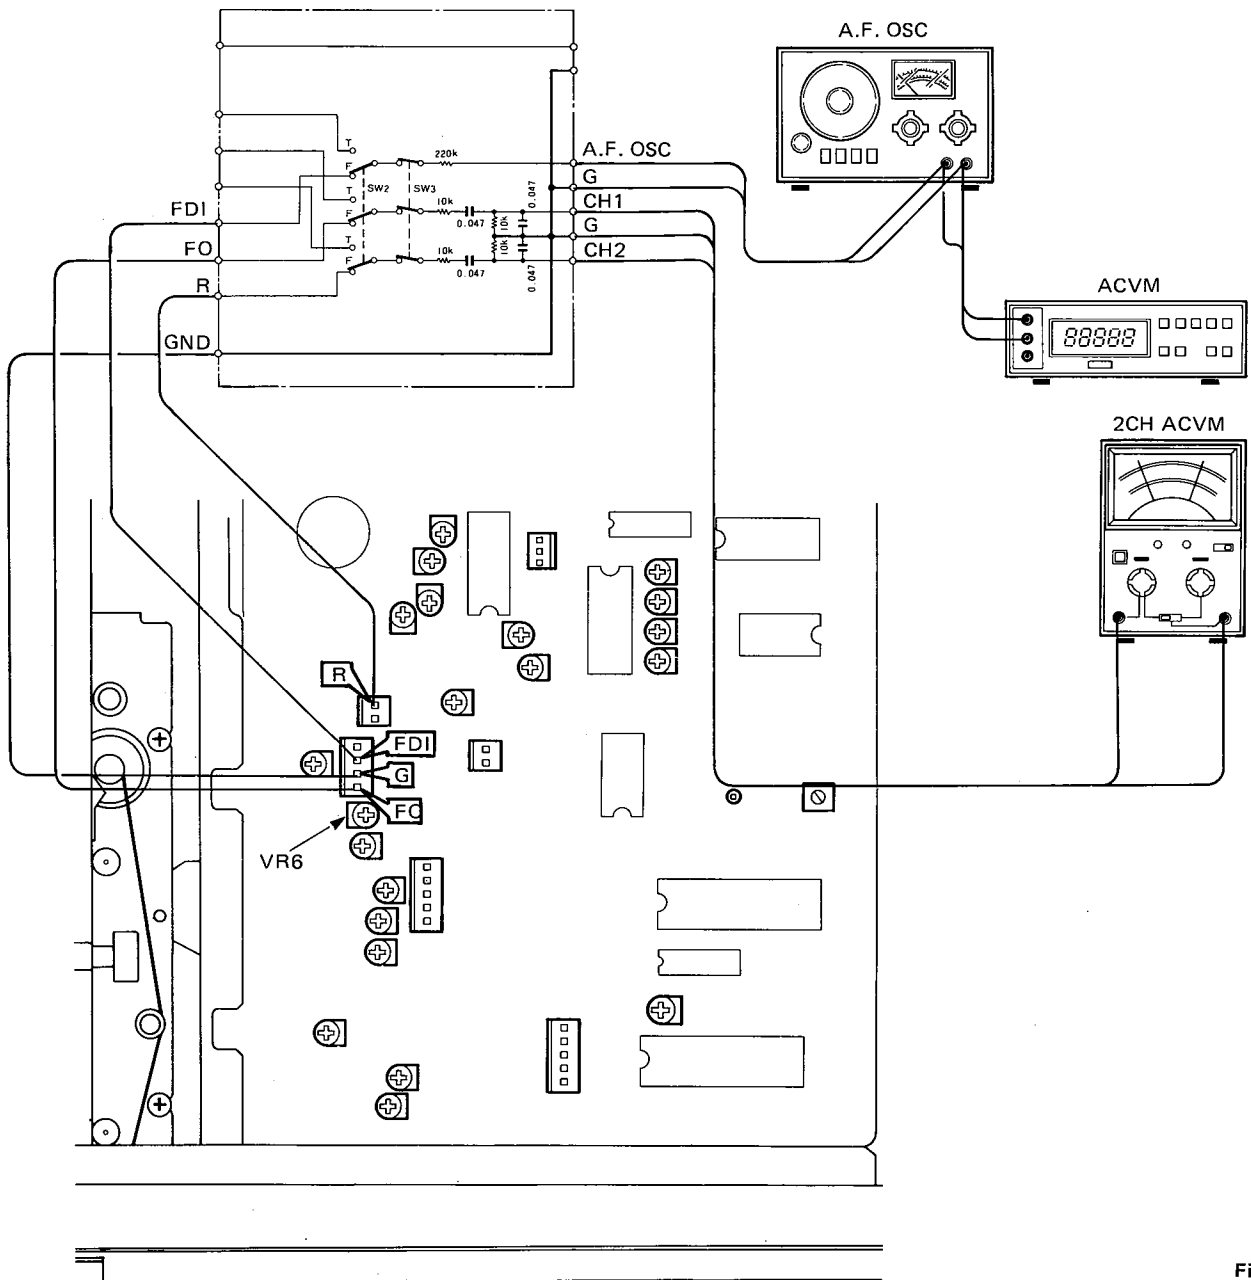

Fig. 1
- ① Connect the filter and measuring instruments as shown in Fig. 1.